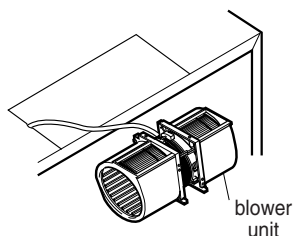

Figure 20
4. Rotate blower unit 90° so the exhaust ports face the upper of the cabinet. See Figure 20.